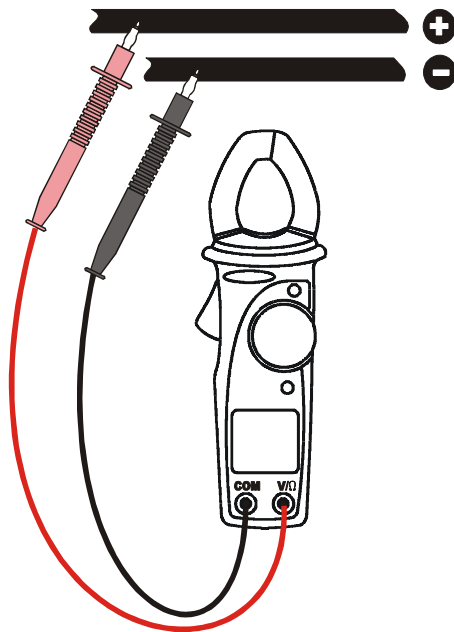

Fig. 5: Use of clamps for DC voltage measures
2. Insert the test leads into the jack, the red plug into  $\text{V}/\Omega$  jack, and black plug into COM jack, like showed in Fig. 5.
5. Press **R-H** key you can select manually the measurement ranges in cyclic order. Press **R-H** key 2 seconds at least to come back to AUTOMATIC range selection.